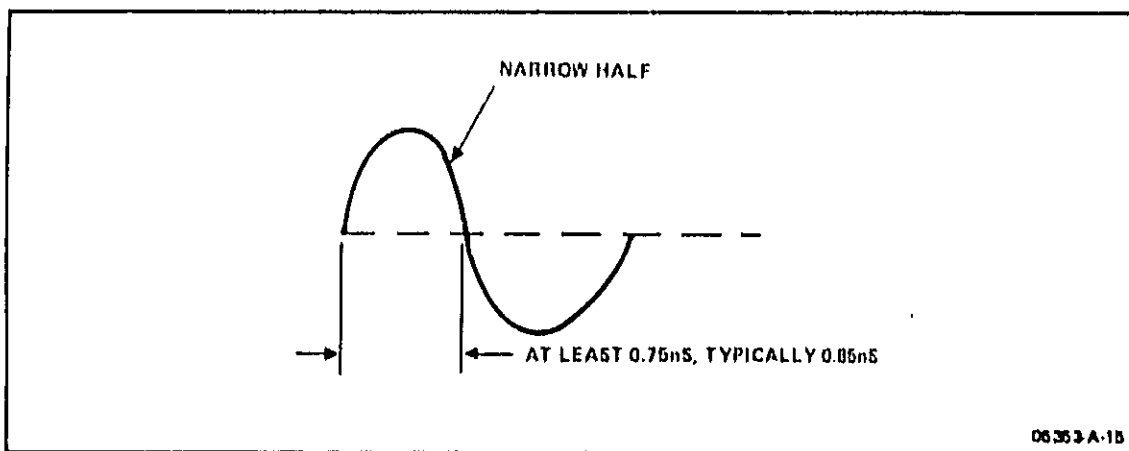

Figure 5-3. Waveform for Adjustments of A4
13. On 5345A, set POWER to ON. Observe 530 MHz signal on oscilloscope. Display should be as shown in Figure 5-3.
17. If the waveforms shown in Figures 5-3 and 5-4 cannot be obtained, the replacement IC should be replaced.